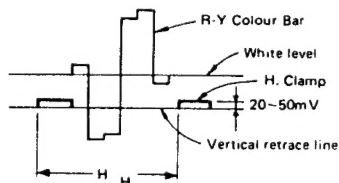

Figure 3.
5. Adjust LM54 so that the white level in picture part reaches to the vertical retrace line. (See figure 3.)